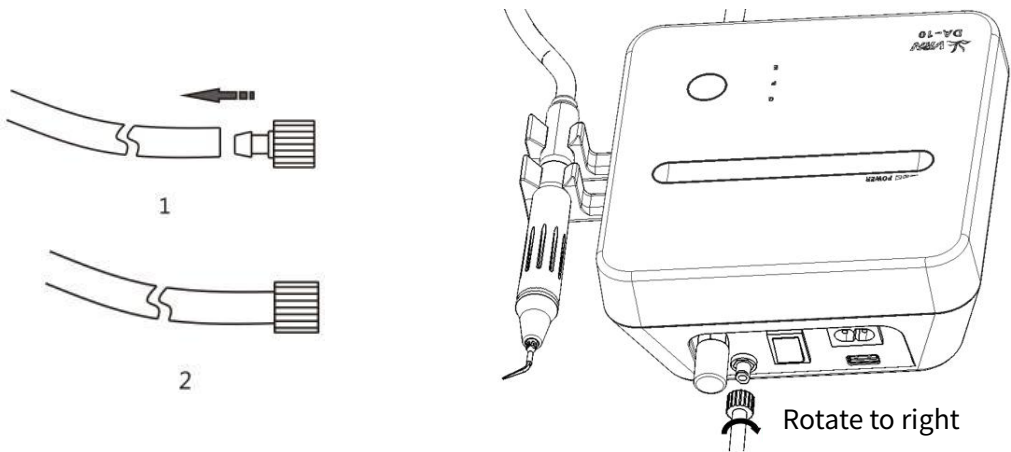

Figure 2.5
4) Connect the connector of liquid pipeline to the device, and input pure water to it(See Figure 2.5).